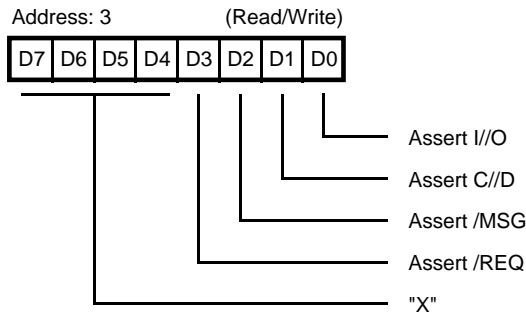

Figure 9. Target Command Register
Target Command Register. *Address 3*(Read/Write). When connected as a target device, the Target Command Register (Figure 9) allows the CPU to control the SCSI Bus Information Transfer phase and/or to assert /REQ by writing this register. The Target Mode bit (Mode Register, bit 6) must be True (1) for bus assertion to occur. The SCSI Bus phases are described in Table 2.